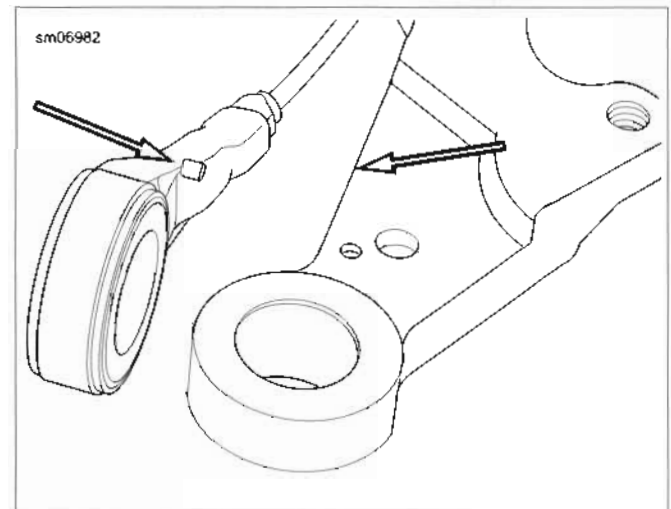

Figure 2-11. Rear Wheel Speed Sensor Index Pin (ABS Equipped)
- Install washer (15) and axle nut (16). Do not tighten axle nut at this time.
- If ABS equipped:** see Figure 2-11. Rotate rear wheel speed sensor counterclockwise until index pin makes contact with caliper bracket at point shown.